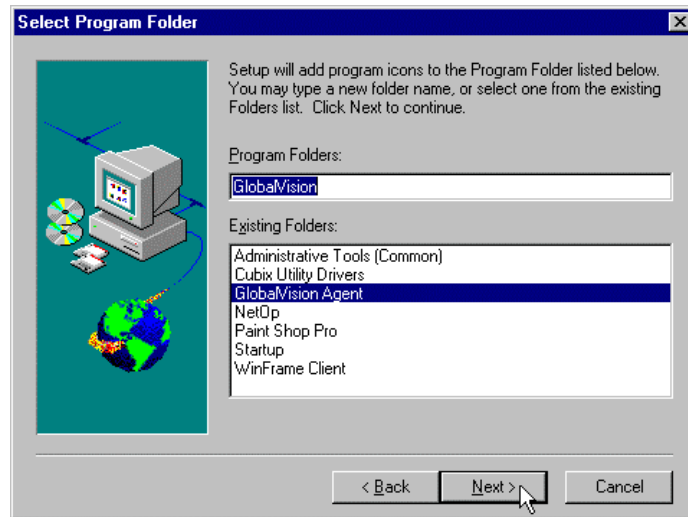

Figure 17– Select Program Folder dialog box
13. Select the program folder where you would like to install GlobalVision icons via the SELECT PROGRAM FOLDER dialog box. The default is **GlobalVision**. Click **NEXT** to continue installation. See Figure 17.